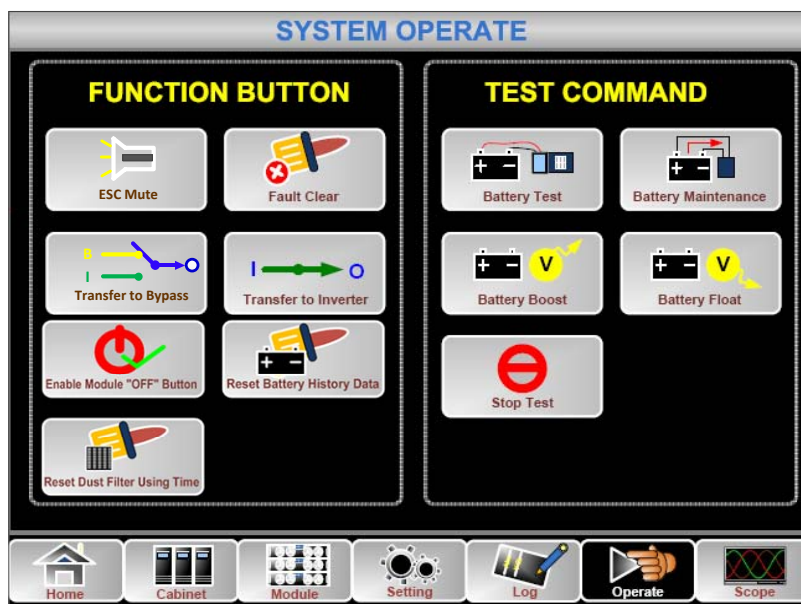

Fig.5-4 Battery maintenance
1. Manual Discharging test. Enter the menu Operate, as is shown in Fig.5-4 and touch the icon “Battery maintenance” , the system transfers into the Battery mode for discharging. The system will stop discharging when the battery will have 20% of capacity or in low voltage. Users can stop the discharging by touching the “Stop Test” icon .